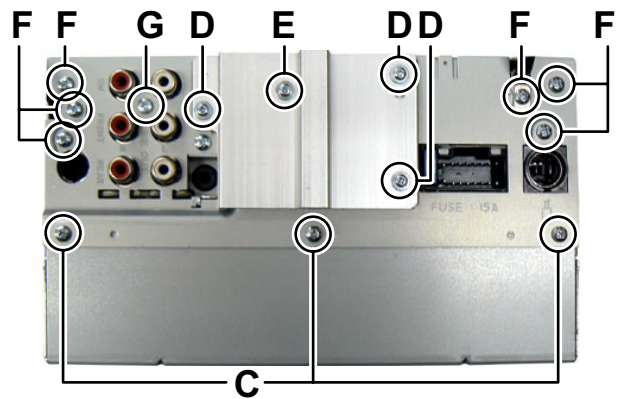

Fig.3
- (2) Remove the three screws **C** attaching the Bottom chassis. (See Fig.3)
- (3) Remove the three screws **D** and one screw **E** attaching the Heat sink. (See Fig.3)
- (4) Remove the six screws **F** and one screw **G** attaching the Rear bracket. (See Fig.3)
3.2.2 Removing the top cover (See Fig.3 to 5)
- (1) From the front side of the CD MECHANISM assembly, change the hook position of the two roller springs. (See Fig.3.)
- (2) From the side of the CD MECHANISM assembly, remove the six screws **C** attaching the top cover. (See Fig.3 and 4.)